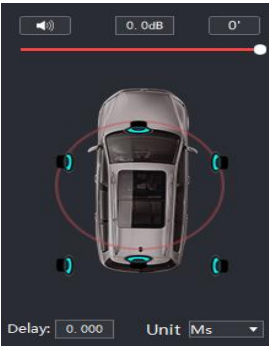

Figure 3.3.3
4.1 full-range passive mode. Figure 3.3.3 as follows ;